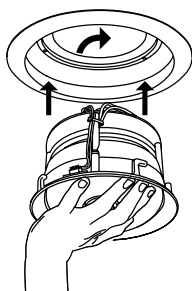

Figure 18
8. Holding the speaker in the palm of your hand, insert the speaker into the frame, twist clockwise to lock. **(See Figure 18).**